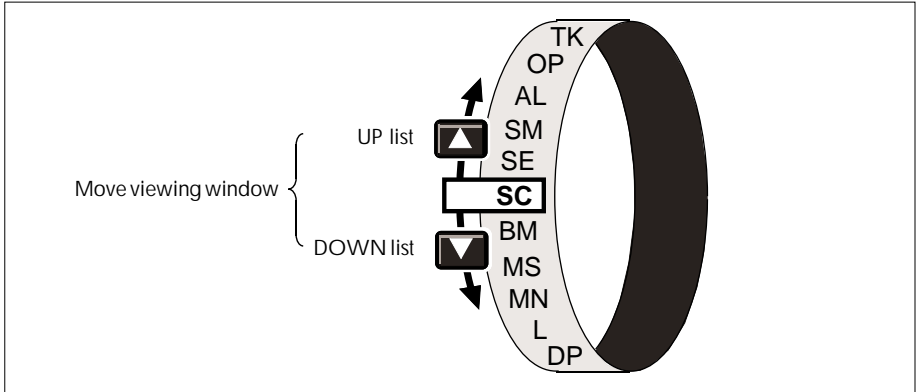

Figure 3-9 Scrolling or stepping cyclically round a list
- 1 Scroll up or down to the current list’s L parameter using ▲ or ▼. The parameter scrolling action is cyclic, so you will eventually get to any parameter going up or down the list. (Figure 3-9 shows this.)
- 2 Hold down or repeatedly press the ▲ or ▼ pushbutton to autoscroll or step cyclically up or down the list to the required parameter. Release the button. Figure 3-9 illustrates how these buttons work to move the viewing 'window' round the continuous parameter list.